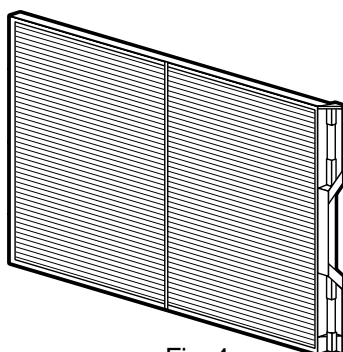
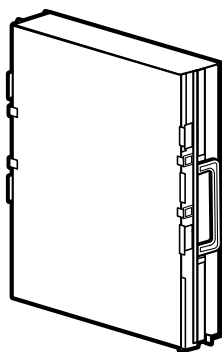

Fig. 4
Fig. 5
- Remove the PRE-FILTER (Figure 4) and/or the COLLECTION CELLS (Figure 5) from the air cleaner.